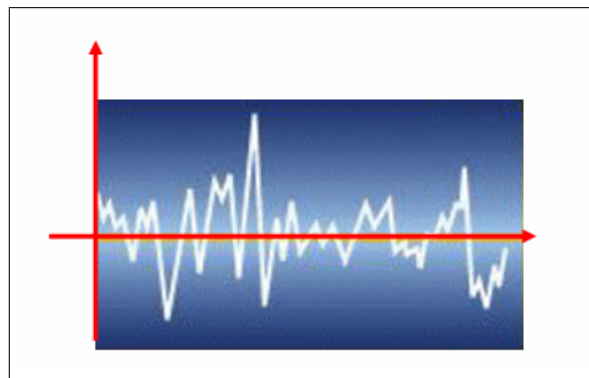

Figure 6.9: Noise (Complex sound).
- Noise is represented by a non-periodic, non-sinusoidal waveform (Figure 6.9).